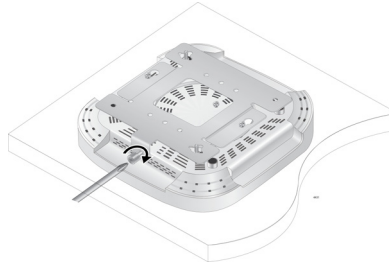

Figure 18. Securely Fasten Chassis to Mounting Bracket with Thumbscrew
3. Tighten the bracket thumbscrew into the front of the chassis until it is securely fastened. Refer to Figure 18.